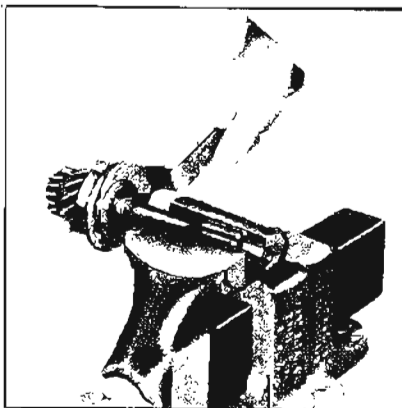

Figure 4-21—Removing Retainer Nut and Oil Slinger
1. Place the clutch gear in a vise with soft jaws, and remove the bearing retainer nut and oil slinger using Tool J-0933. See Figure 4-21.